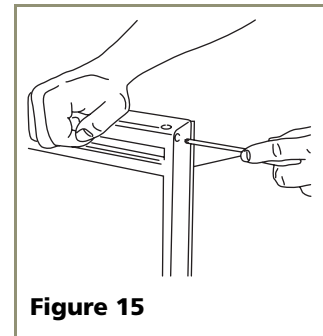

Figure 15
3. Remove two outside screws holding door handle. Slightly separate door handle from door (see **Figure 15**).